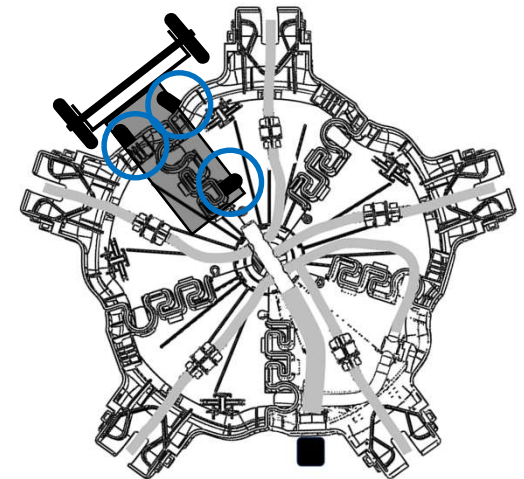

Figure 1c
- c) Place wheel assembly into position, making sure that mounting brackets are positioned as shown (Figure 1c) and seated up against the base of the Aqua-Tower.
- a) Place wheel assembly back into position (Figure 1c)